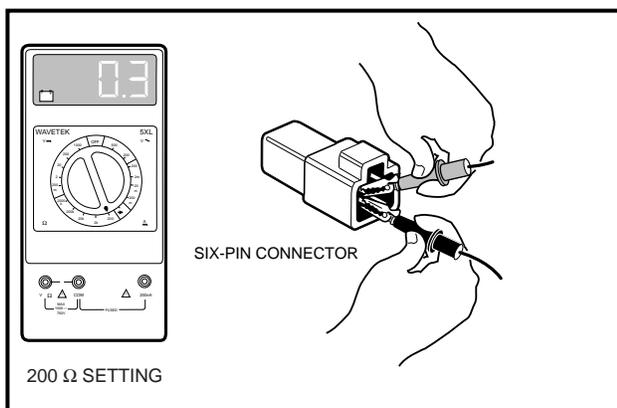

Figure 11-13 Test Limit Switch (Multi-step)
1. With batteries disconnected, place black (-) probe of multimeter, set for 200 ohms, on green/white wire terminal from six-pin connector on the wiper switch side and red (+) probe at the blue wire position at the six-pin connector on wiper switch side (**Figure 11-13, Page 11-14**).
4. If readings for steps 2 and 3 are not correct, check wire connection at the normally closed (NC) and common (COM) terminals of accelerator pedal limit switch (located inside wiper switch). Check accelerator pedal adjustment. **See Section 5—Accelerator and Brake Pedal.**